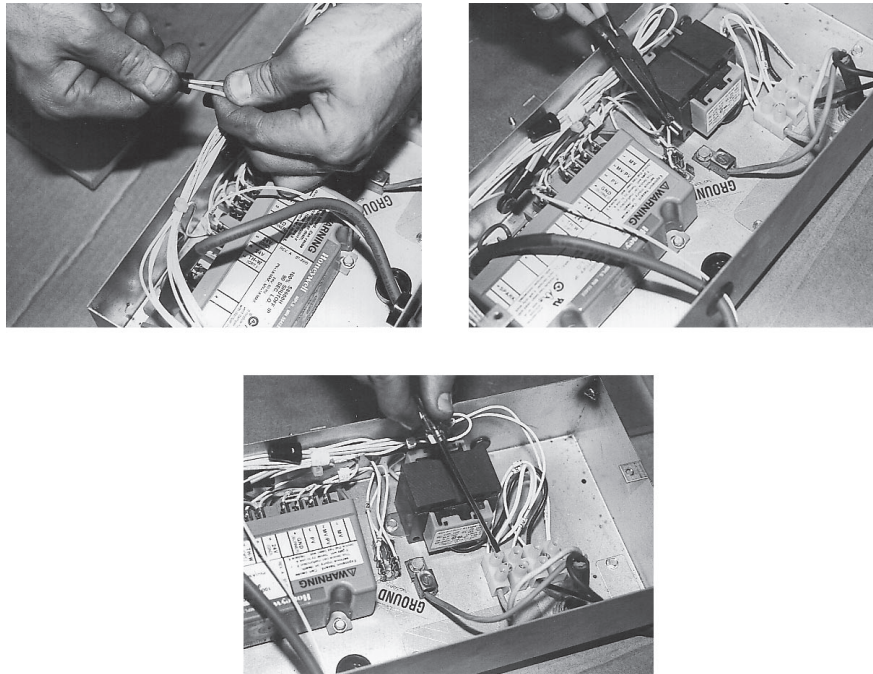

Fig. 84
3. Disconnect all wiring associated with the transformer. (Fig. 84)